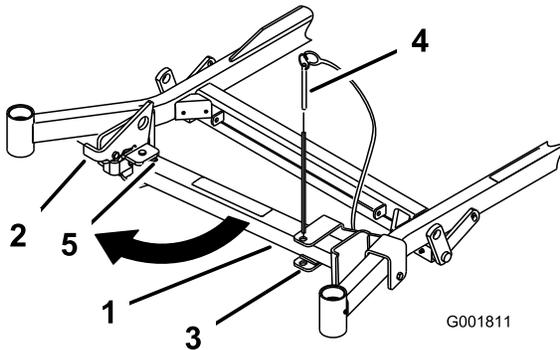
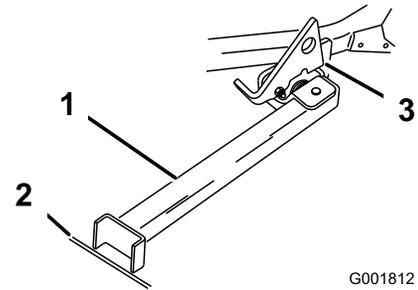

Figure 33
Figure 34
2. Remove the bracket pin (Figure 33).
3. Raise the latch. Swing the stand foot out front and slide stand toward machine, into the bottom of slot (Figure 33 and Figure 34).
6. Set the foot of stand on the ground and rest the latch on the pivot tab (Figure 34).
- Note:** For best results, place the foot of stand into seams in sidewalks or into the turf (Figure 34).
8. Drive onto the stand. Stop when the latch drops over the tab into the locked position (Figure 34). Once onto the stand, engage the parking brake and turn off the engine.
7. Return the stand to its rest position (Figure 33).